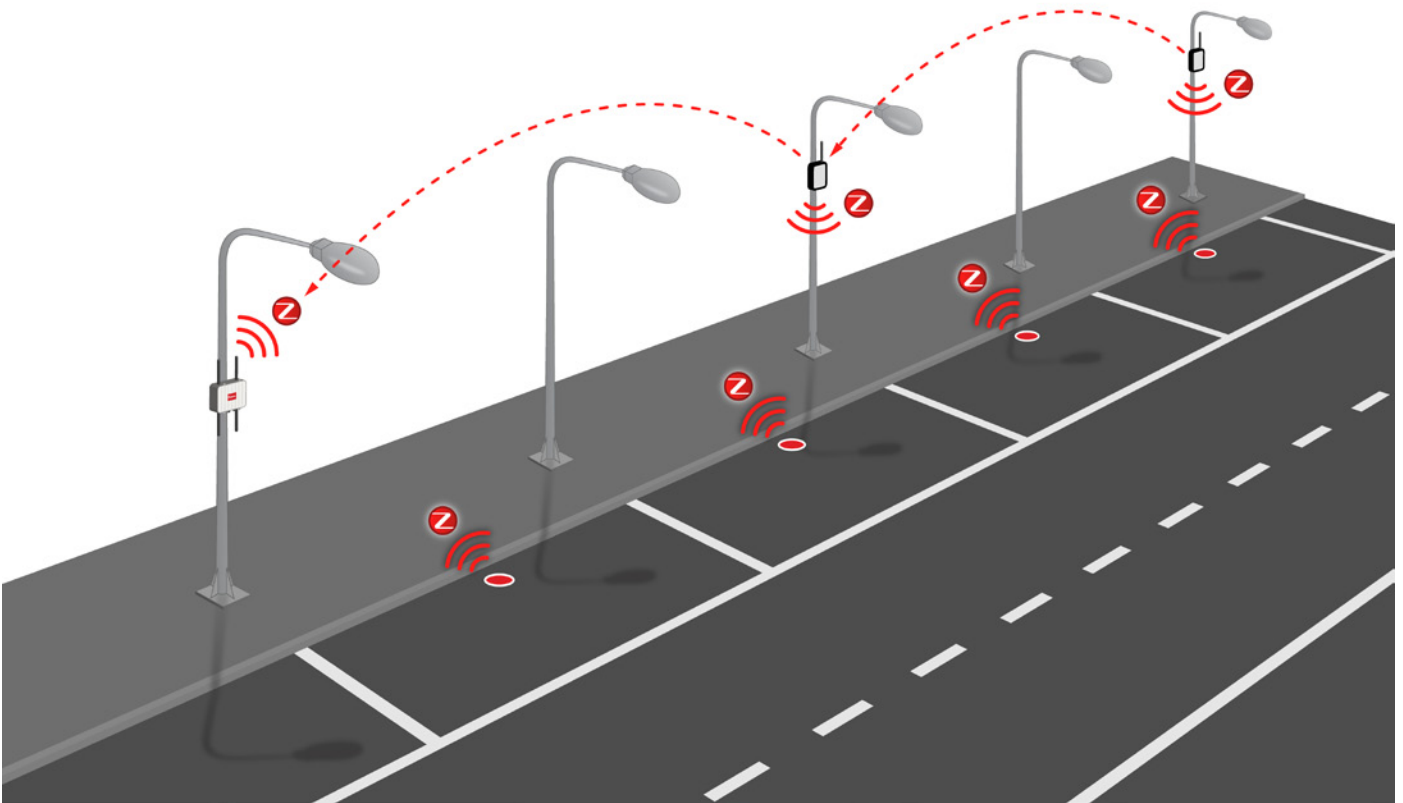

Figure 13: 2.4 GHz - Multihop ZigBee / Digimesh Network - The repeaters send the data using a multihop topology
- 2° Step (Figure 13): The repeaters perform multihop routing and send the information to Meshlium.